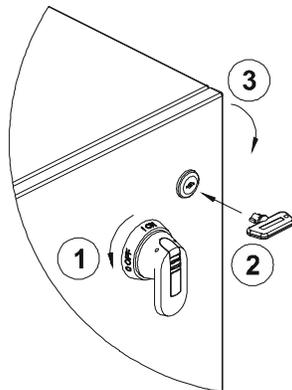

Figure 3.4: Open the door of the Main Electrical Control Cabinet.
2. Ensure that the machine's electrical power supply has been disconnected at the supply source. Turn the machine's Main Disconnect Switch to the Off position. Using the special key, open the door of the Main Electrical Control Cabinet (see Figure 3.4).